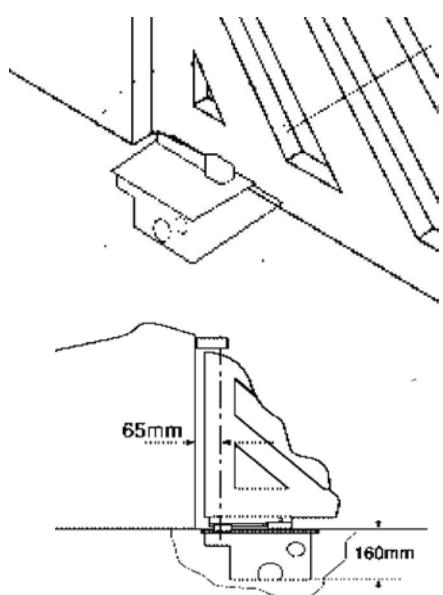

Fig.1
Check the overall dimensions (fig. 1) to ensure that you will have enough space to dig out a hole for the motor housing.
- The motor housing must be set in concrete. The piping for the electrical wiring and the drainage should be borne in mind in this connection (fig 1).